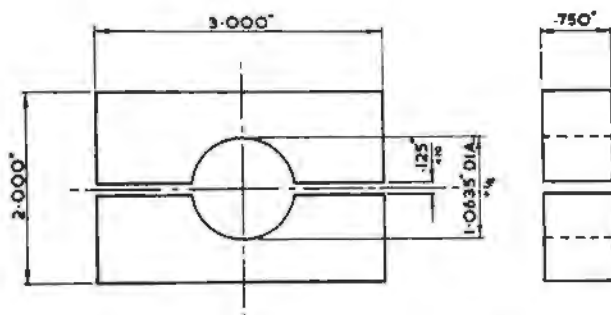

Fig. J.7.—Details of Holding Block.
Holding block as shown in Fig. J.7.
- Holding block (as shown in Fig. J.7).